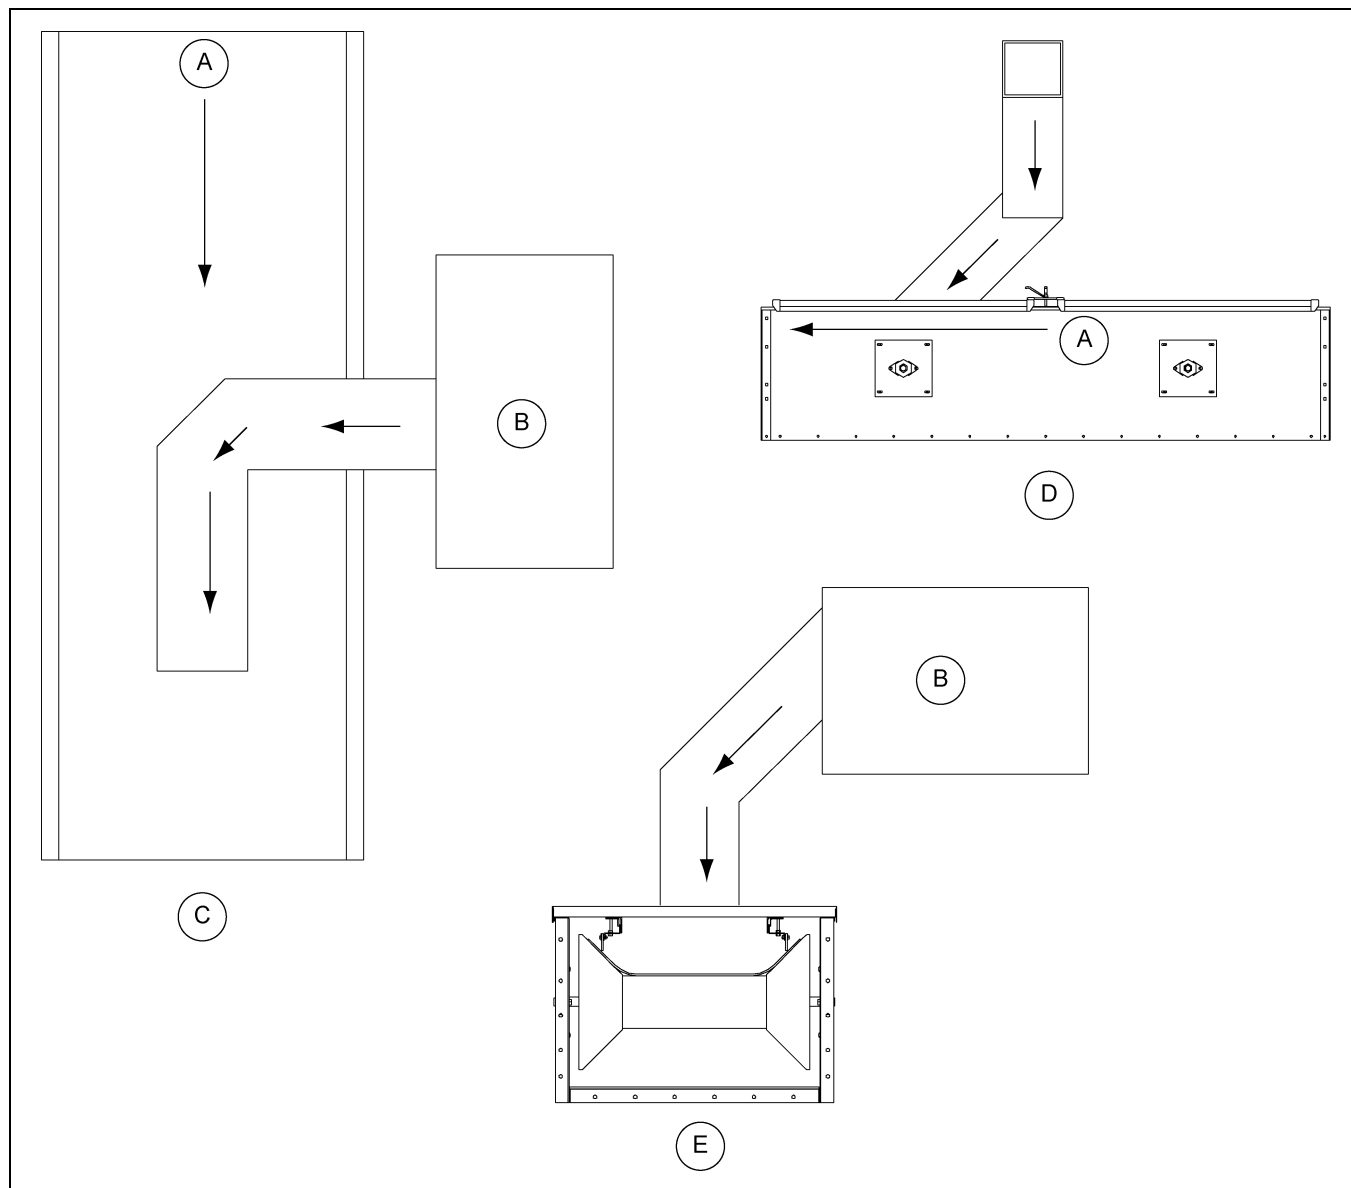

Figure 7D
1. Grain should come out from storage and make a 90° turn by use of baffles and load straight into the conveyor at approximately a 45° angle. *(See Figure 7D.)*